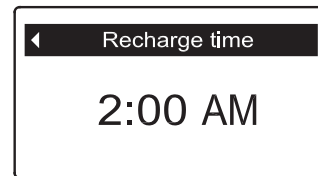

FIG. 117
4. Press the SELECT (O) button to display the Recharge time screen (See Figure 117).